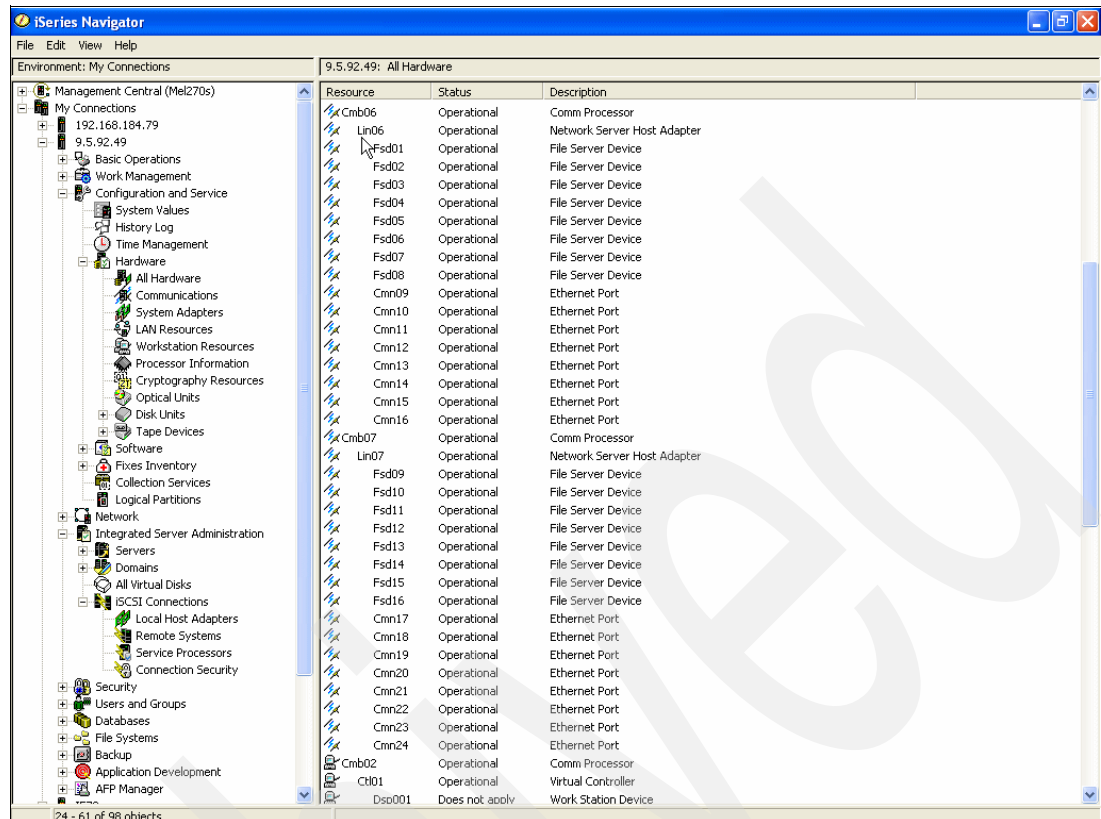

Figure 9-49 Identifying the iSCSI target HBA Resource ID - iSeries Navigator
1. Expand **Configuration and Service** → **Hardware** → **All Hardware** as shown in Figure 9-49 on page 420. Record the Resource ID, Lin06 in this example.